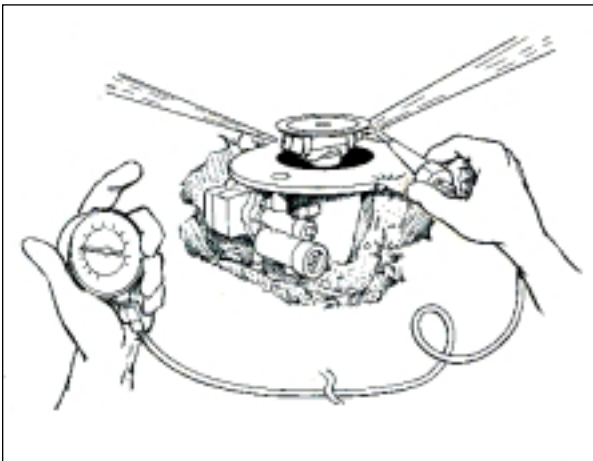

Figure 5
4. Hold pitot tube in main nozzle flow. Observe pressure on gauge, see **Figure 5**.